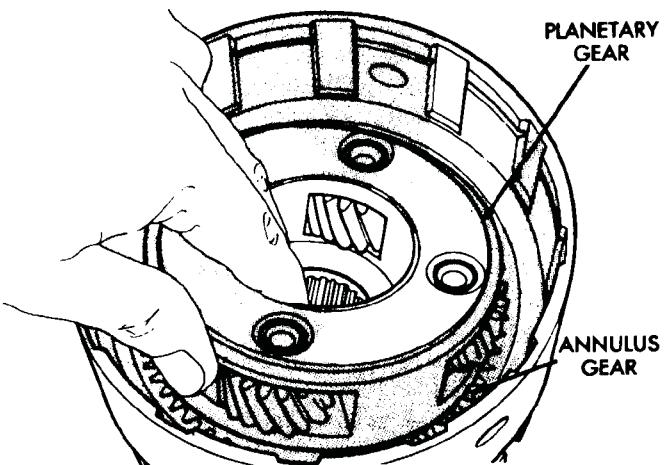

Fig. 51 Planetary Gear Installation
(12) Install planetary gear in annulus gear (Fig. 51). Be sure planetary pinions are fully seated in annulus gear before proceeding.